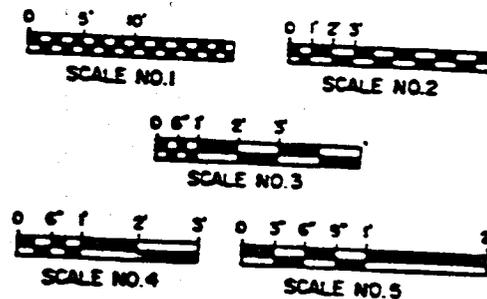

Fig 1-34. Graphic scales.
- (2) Scale block. The scale block will indicate the scale used on the drawing, either as a ratio (for example: 1/4 or 1:4 meaning 1 inch on the drawing equals 4 inches on the object, or 12" = 1" meaning 12 inches on the drawing equals 1 inch on the object) or as a graphic scale as shown in figure 1-34. If the same scale is not used on all parts of a drawing, the scale block may be marked "as noted" or left blank, and the scale noted underneath each part of the drawing.
If graphic scales are used, several scales may be shown with numbers (fig 1-34) and the appropriate scale number noted alongside each part of the drawing. When you read drawings, always follow the dimensions specified on the drawing first, and use the scale on the drawing where dimensions are not given. Do not measure with an architect's or engineer's scale directly on a print, since the print may be enlarged or reduced or the paper may shrink during the copying process.